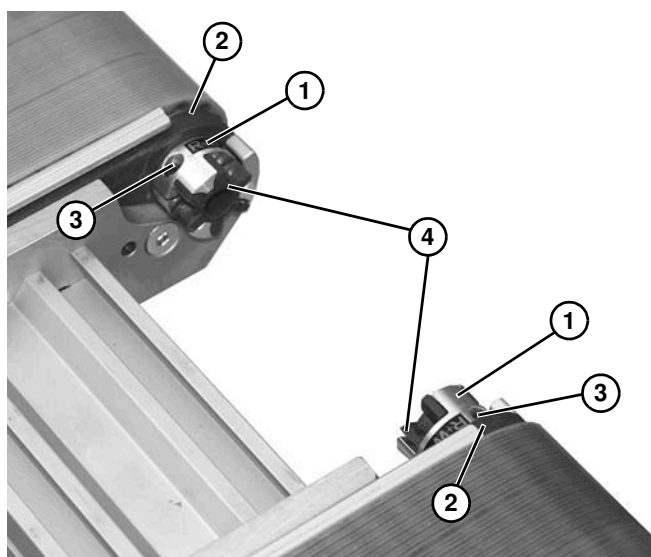

**Figure 26**
2. Install screw (**Figure 26, item 1**) onto spindle plate (**Figure 26, item 2**).
3. Install screw (**Figure 26, item 3**) to secure front side of plate. Repeat on opposite side.